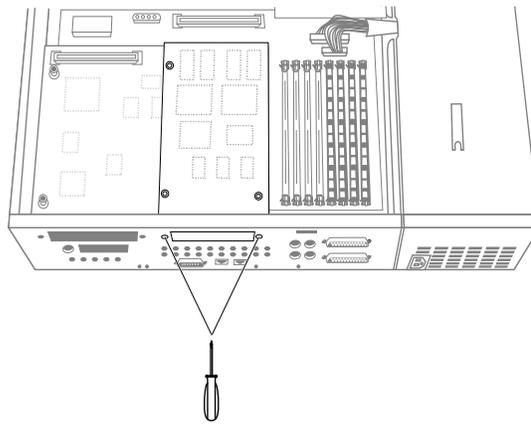
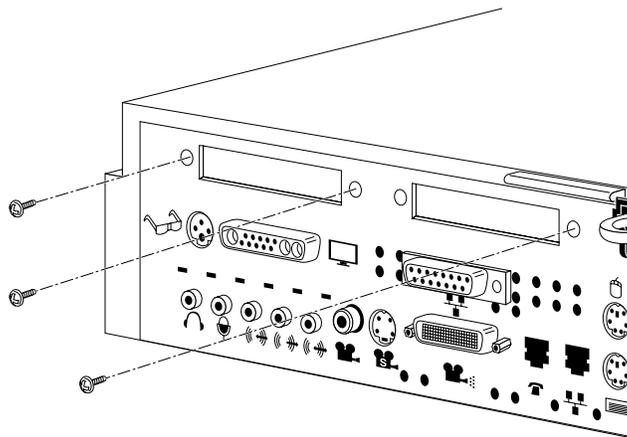

Figure 8-3 Removing the External Screws From a Single-Width Board
Figure 8-4 Removing the External Screws From a Double-Width Board
7. Using the tool provided with the replacement GIO board, remove the screws from GIO board connector on the rear of the workstation. Figure 8-3 shows the screw locations for a single-width board; Figure 8-4 shows the screw locations for a double-width board.